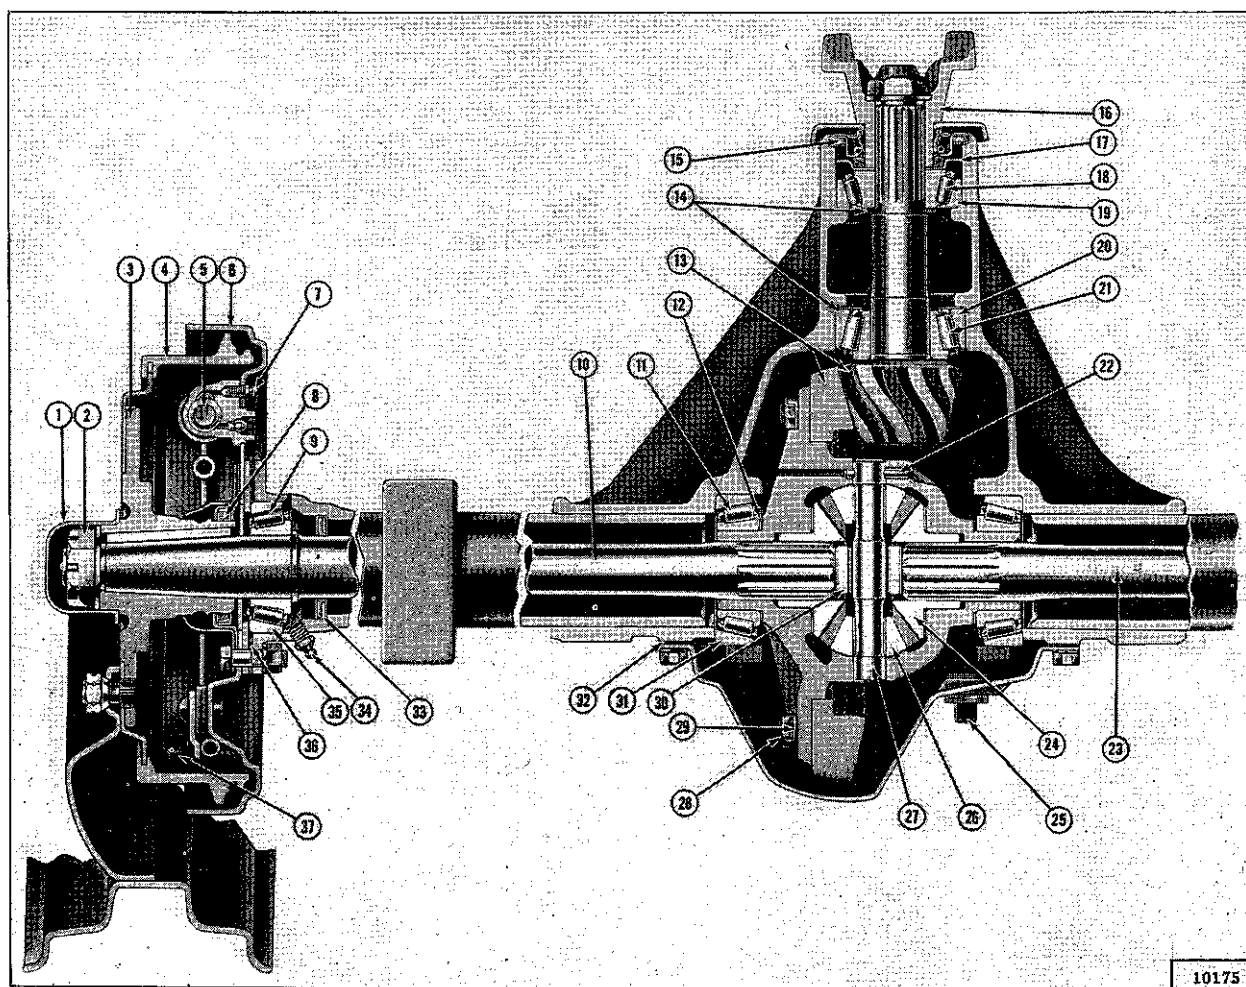
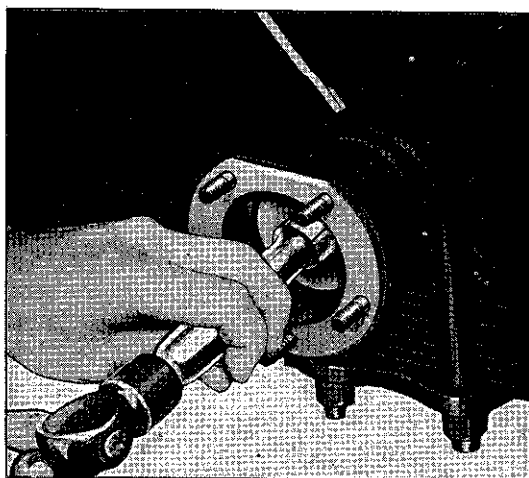
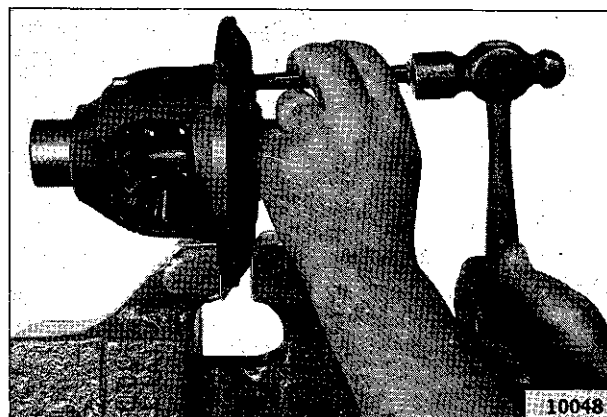

FIG. 256—REAR AXLE ASSEMBLY
FIG. 257—OIL SEAL DRIVER
FIG. 260—REMOVING LOCK PIN
Assembly is the reverse of dismantling. Check the shaft oil seal, No. 35, Fig. 256, before installing the axle shaft. If replacement is necessary use axle
shaft oil seal driver W-186, Fig. 257. Also check the grease retainer, No. 9, Fig. 256, and replace it if there is any doubt of its condition. Adjust the wheel bearings as outlined in Section Q.
g. The differential shaft (Fig. 256, No. 29) is held in place by a lock pin (24). Use a small punch as shown in Fig. 260 to drive out the lock pin. Remove the differential shaft.